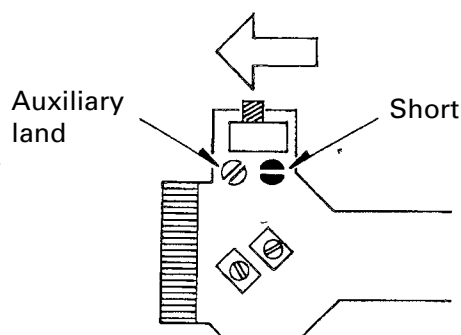

Fig. 2
3. Set the pick-up flexible cable to a shorted position on the land end (the other is auxiliary), and turn the SW knob in the direction opposite to OP (see fig. 2).